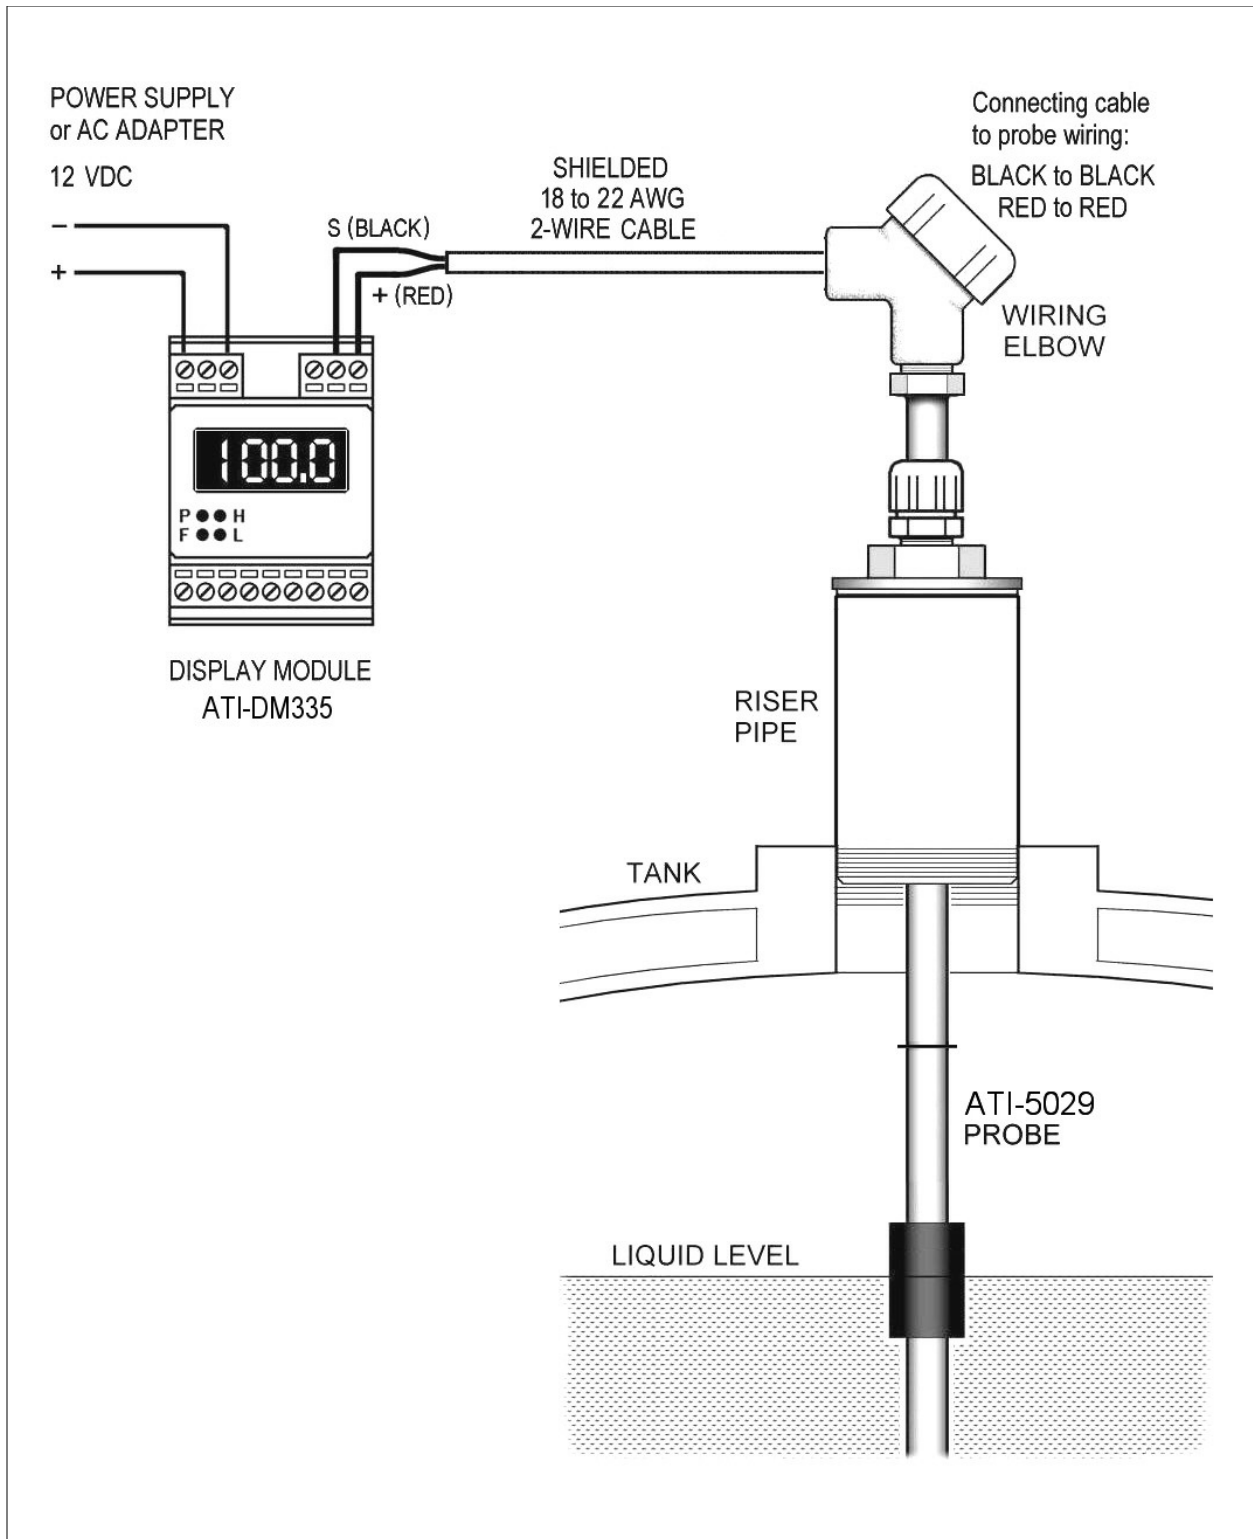

FIGURE 2: Wiring of ATI-5029 probe to ATI-DM335 display module.
The ATI-5029 Level Measurement Probe is a 2-wire device that can be wired to the ATI-DM335 display module (see FIGURE 2). The ATI-5029 can also be wired to a 3rd party monitor or computer that accepts a 4 to 20 mA input. Note that no IS barrier is required as the ATI-5029 is CSA certified as explosion-proof for Class I, Group D locations.
5. Remove the cover cap from the probe's electrical wiring elbow and adjust the SPAN trimmer (colored red) until the reading on the display module corresponds to the recorded dipstick measurement (see FIGURE 2).